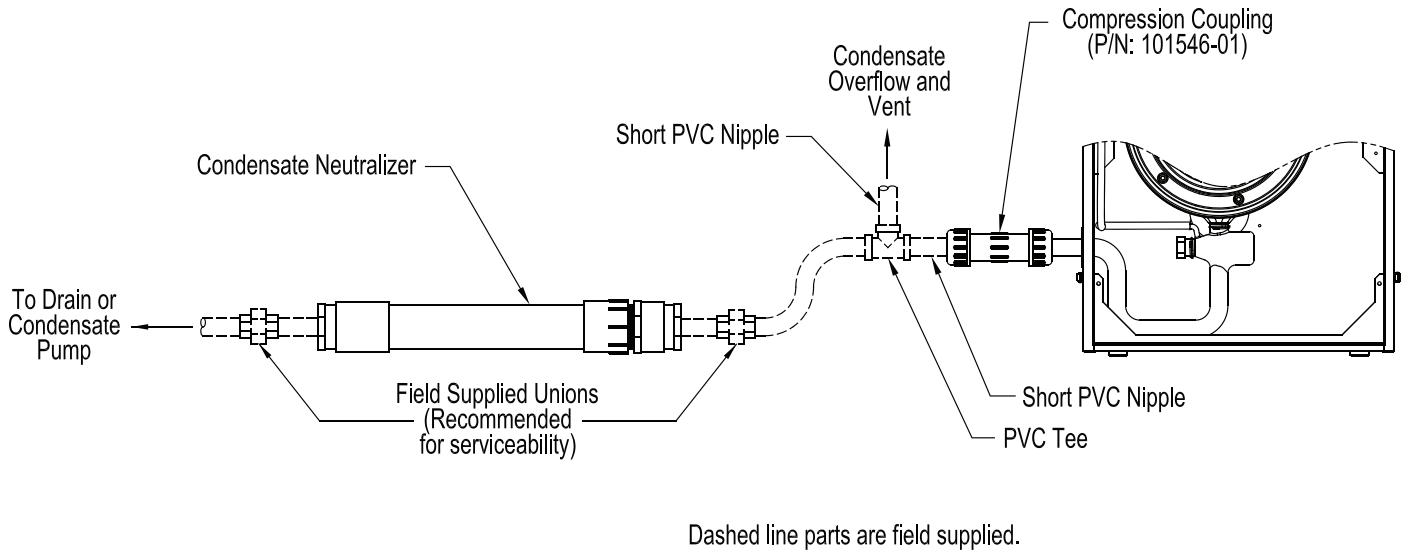

Figure 24: Condensate Trap and Drain Line
6. Install tee for condensate overflow and vent as shown in Figure 24.